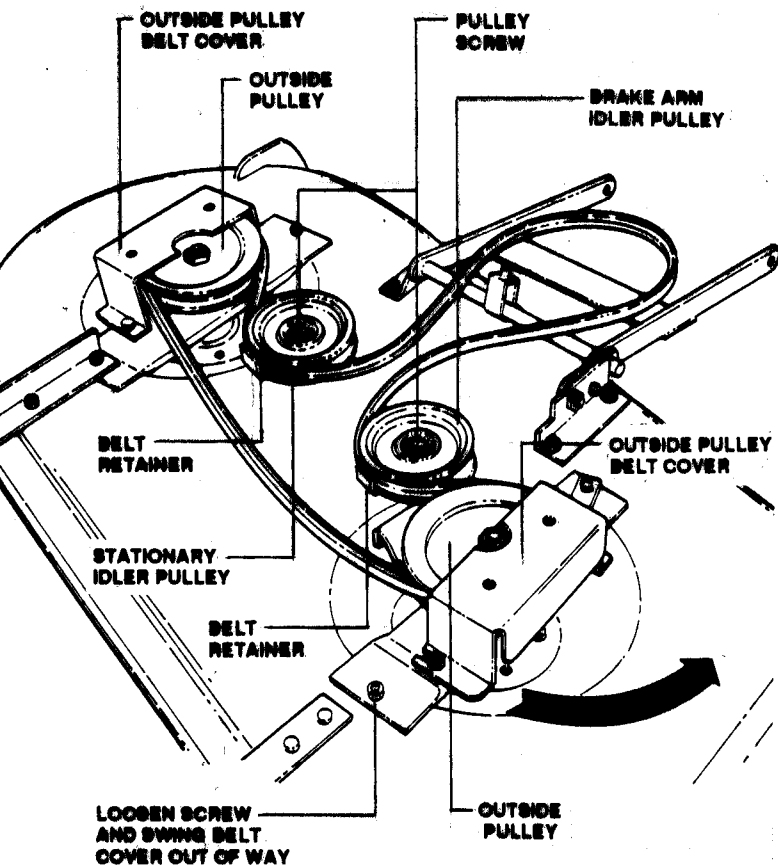

FIGURE 21A
6. Route new belt around pulleys as shown in Figure 21A.